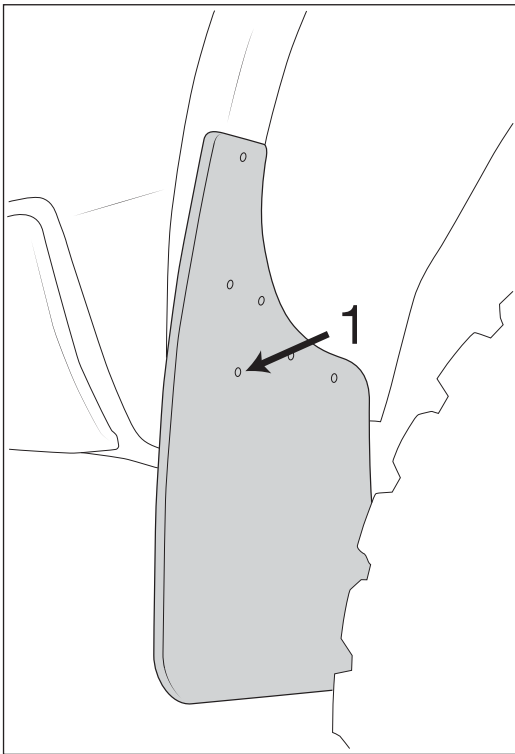

Figure 1
9. Drill a 5 mm hole at location 1 (Fig. 1).